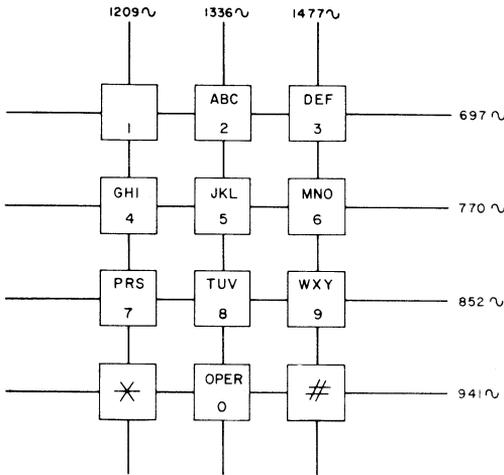
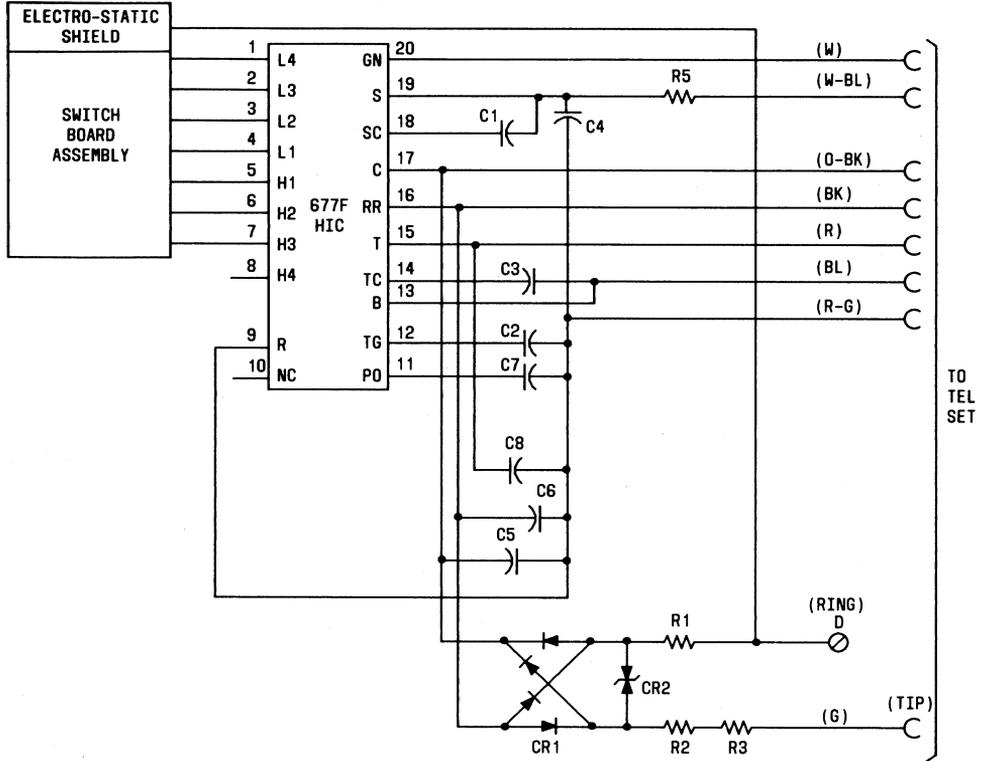

Fig. 5—72-Type Dial Frequencies
Fig. 6—72-Type Dial, Schematic
2.03 Each of the pushbuttons, when operated, generates a dual tone multifrequency signal distinctive to that button. Figure 5 indicates the frequencies for each button. Both the signaling and common switch functions are provided by the 677F (Fig. 6) hybrid integrated circuit (HIC).
2.05 Each dial has eight spade-tipped leads (Fig. 6) for connections to the telephone set network and one screw terminal (D) located on the back side